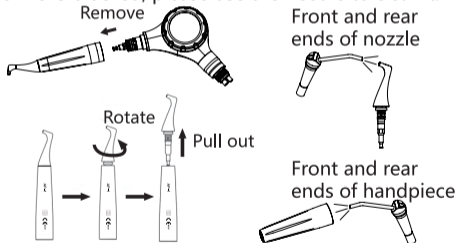

Figure 10 Schematic diagram of handpiece cleaning
- ① Remove the handpiece of the air poishing gun, unscrew the spray-head and pull out it, as shown in Figure 10;
- ② Aim the air gun at the nozzle and blow out the powder inside the nozzle;
- ③ Use an air gun to blow the front and rear ends of the handpiece to clean the remaining moisture on the handpiece.
- ④ If the nozzle is blocked, please use the needle to clear it.